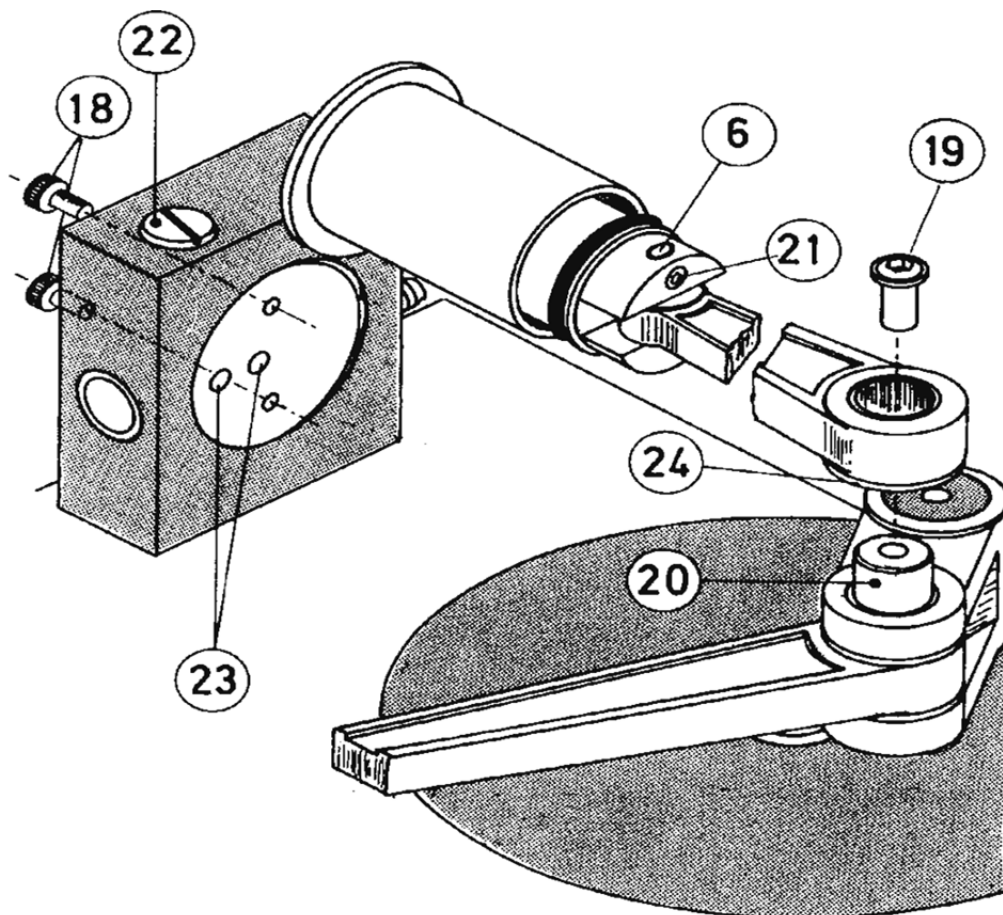

Figure 6 "Cylinder/Piston Assembly"
- A. Run the pump until the piston is at a rearward position, that is, away from the valve block. Using the 3 mm Allen wrench provided, remove the two screws (18, see Figure 6 "Cylinder/Piston Assembly"), accessible from the air port side, which fasten the cylinder to the valve block.
The valve gear is lubricated via the grease cup (22) placed on the valve block top, see Figure 6 "Cylinder/Piston Assembly". A lithium-grease tube is supplied with the standard package, see 8-ORDERING INFORMATION.